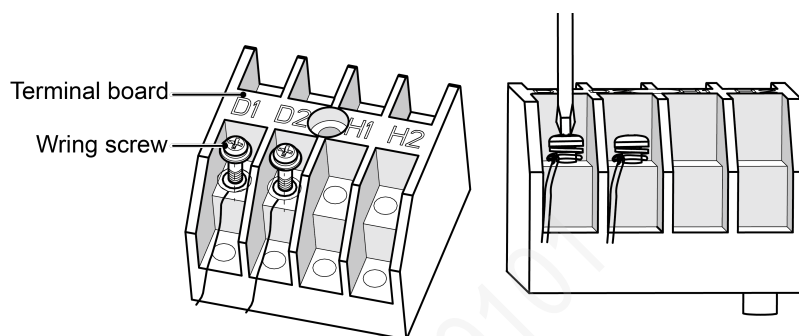

Fig 5.4
- (1) Open the cover of electric box of indoor unit.
- (2) Lead the communication line across the rubber ring.
- (3) Connect the communication line to terminal D1 and D2 on the 4-digit wiring board of indoor unit, as shown in Fig 5.4.